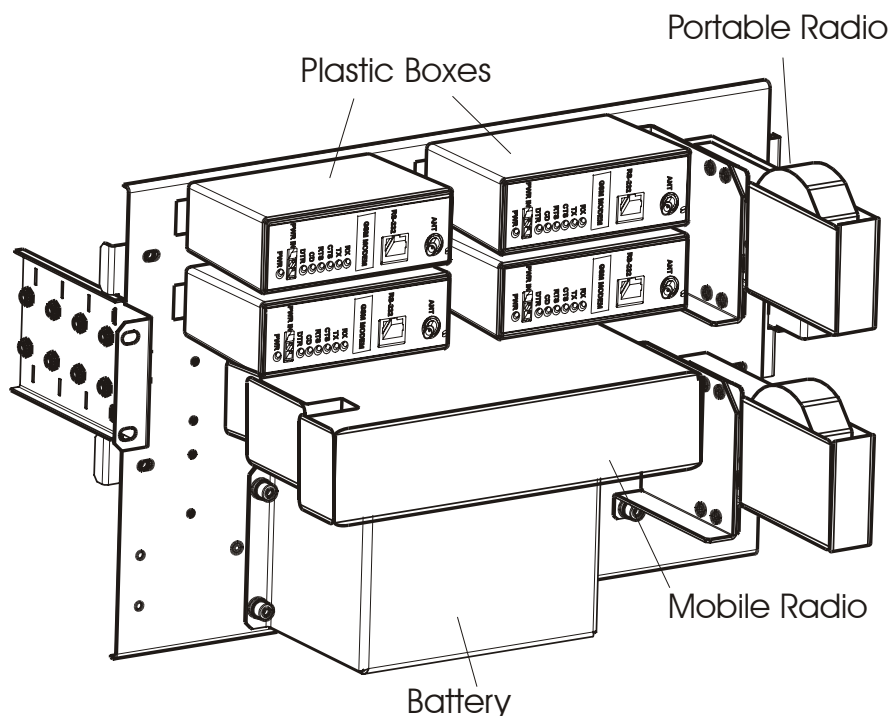

Figure 2-19 Accessories Installed on a Metal Chassis
- 1) To connect the plastic box interface to the metal chassis, place the box on the metal plate and click the two pegs on the back of the plastic box into the desired holes on the metal chassis. See Figure 2-19.